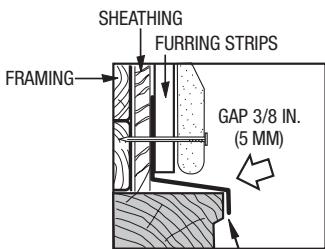

Figure 3H
- c) Use drip caps above windows and doors and J-moulds on each side of windows and doors. See Figure 3H. Extend drip cap past J-moulds, cut at angle and bend down over J-mould to prevent water entry at junction.